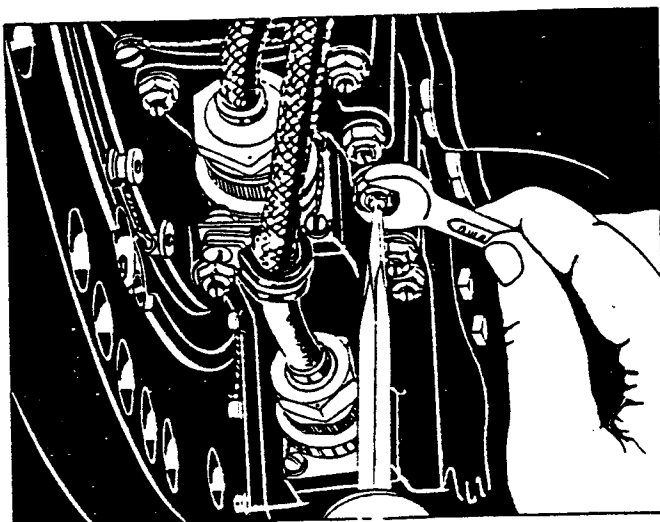

Figure 7. Adjusting the Pitch Transmitter
c. To adjust the pitch transmitter, the alternating current must be on. The pitch indicator should now read 35 degrees; that is, the course hand should be midway between the 30 and 40-degree graduations and the fine hand at the 5-degree position. If necessary, turn the external adjusting screws on the rear of the transmitter case until the pitch indicator indicates the indexing angle of 35 degrees. (See figure 7.) Lock the adjusting screws in this position by tightening the self-locking nuts. If greater adjustment is necessary, the transmitter must be lowered from the control and the gear pinion rotated by hand. After installation of the transmitter, further external adjustment may be necessary.